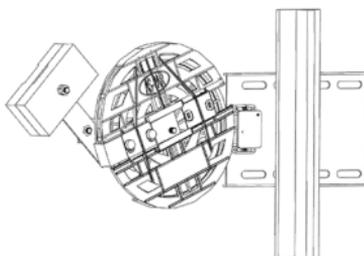

Fig. 17
2. If tension pulley direction is inverse, dismantle the 2 screws (red colored) which exists on protection plastic as seen at Fig. 17